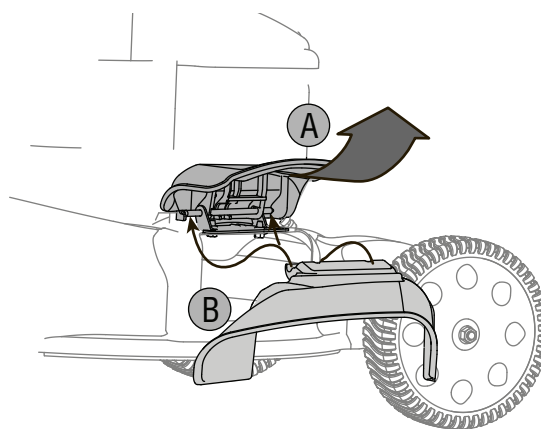

Figure 11 - Optional Feature (If equipped)
- a. On the side of the mower deck, lift the hinged mulching plug. See Figure 11.